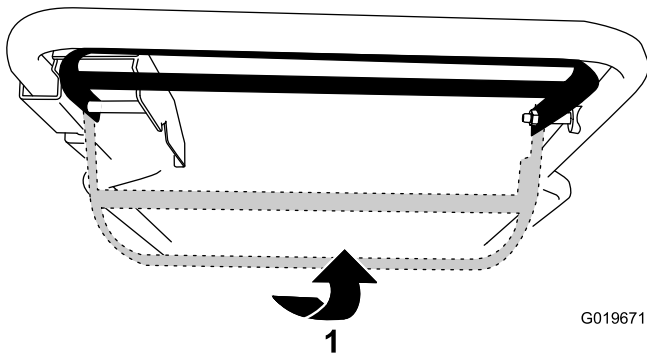

Figure 14
- To operate the self-propel drive without engaging the blade, raise the control bar to the handle (Figure 14).